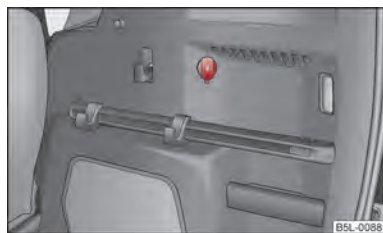

Fig. 75 Luggage compartment: Power socket
- Open the cover of the power socket ⇒ fig. 75.